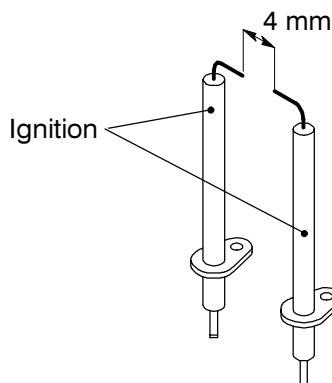

Fig. 75
- 2 Check for the correct distance between the metallic edges of the ignition electrodes (see Fig. 75).